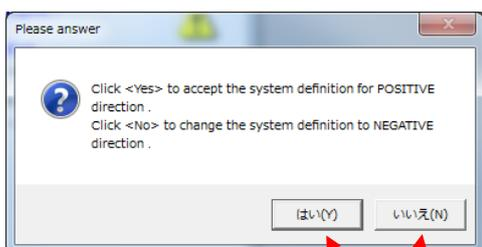

Fig. 6-2-21
- 4) The motor stops after a while, and the confirmation screen of the movement direction (Fig.6-2-21) will be displayed.